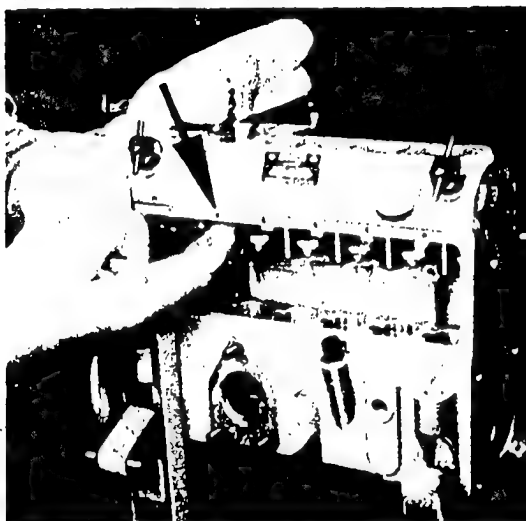

Fig 29 Lift out the pump barrel on size A.
11. On pumps type PE...A...B, the pump barrels have a groove in which a locking pin engages. They can easily be lifted off upwards (Fig. 29). Pump barrels on pumps type PE...B and PE...Z have a closed locking groove with bore hole and are prevented from turning by a